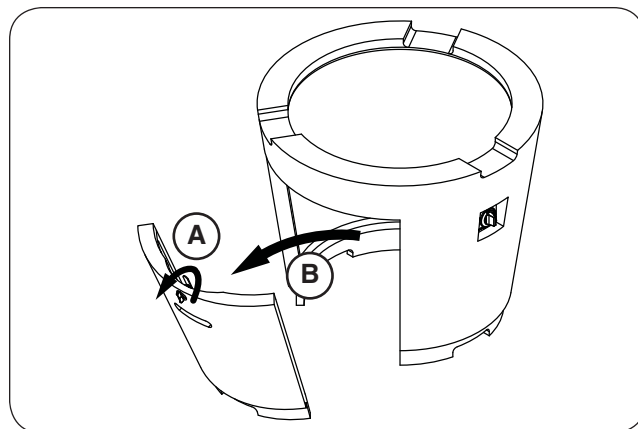

Fig. 18-2 Remove door (if applicable)
2. If equipped, remove the storage door by first turning the door handle counter-clockwise, then carefully pulling the door outward (see Fig. 18-2). Store in a safe location.